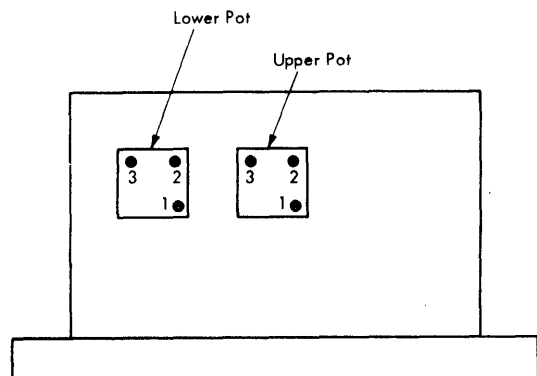

FIGURE 88. MODULE SIDE OF 5801515 CARD
- a. Measure between pins 1 and 2 (Figure 88) on the top pot and rotate the pot counter-clockwise until a minimum reading of about 0 ohms is obtained.
- b. Measure between pins 1 and 2 (Figure 88) on the bottom pot and rotate the pot clockwise until a maximum reading of about 1000 ohms is obtained.